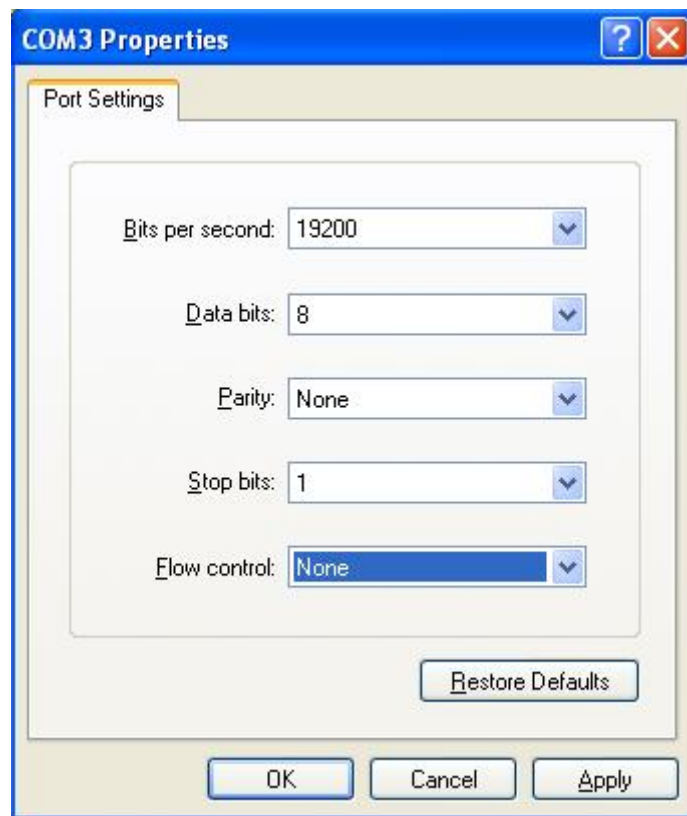

Figure C-8 · COM3 Properties Window
- The COM3 Properties window appears (Figure C-8). Select the following settings: